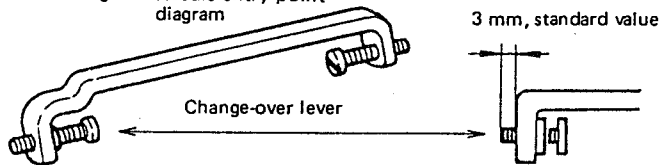

Fig. 2
3. Check whether the standard value of 3 mm is provided as illustrated in Fig. 2. (If the protruding amount of the screw is not 3 mm, adjust so that the standard value is provided and check the finished state of the seam.)